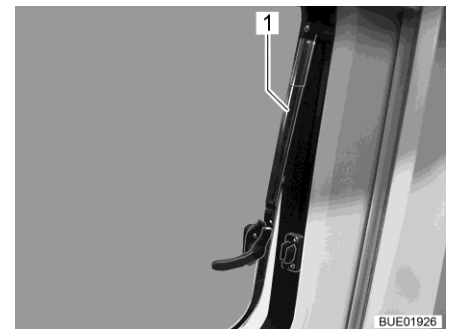

Fig. 14 Hinged window with automatic hinges, open
- Open hinged window half up to the required position. Allow the hinged window to engage automatically with the automatic hinge (Fig. 14,1). The hinged window remains locked in the required position.